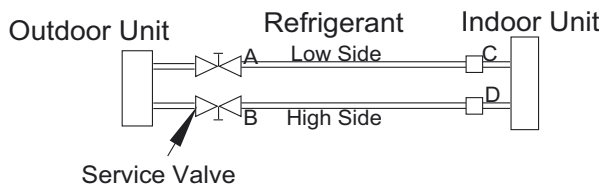

Fig. 19 — Service Valve
1. Completely tighten the flare nuts (A, B, C, D, E). Fully open all circuits service valves. Connect the manifold gage charge hose to the charge port of the low side Master service valve to evacuate all circuits at the same time (see Fig. 19).